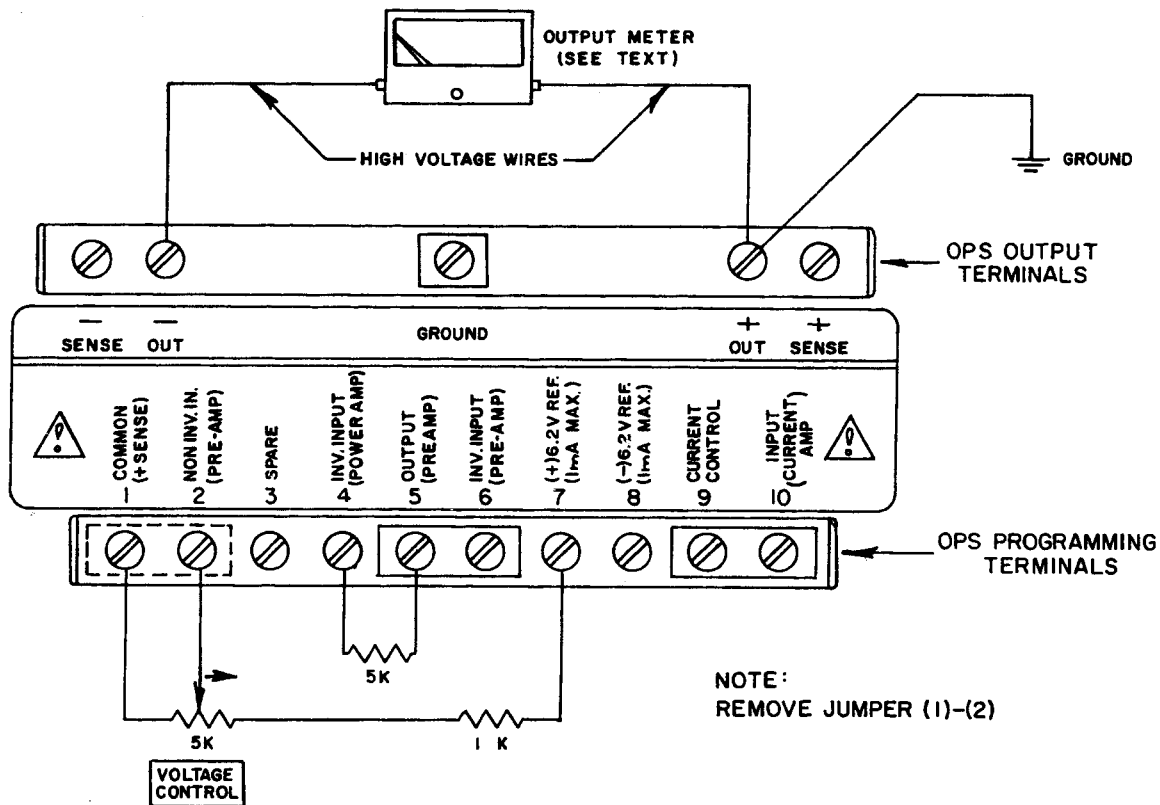

FIG. 2-4 TEST SET-UP FOR FUNCTIONAL CHECK OF THE OPS.
- 2-7 **A-C SAFETY GROUND.** THE DANGEROUS VOLTAGES PRESENT IN THIS EQUIPMENT MAKE IT IMPERATIVE THAT THE CASE IS KEPT AT GROUND POTENTIAL AT ALL TIMES. If the 3-wire line cord with 3-prong safety plug (supplied with this equipment) is used in combination with a properly grounded outlet, this is taken care of automatically. If an adapter for a nongrounded outlet is used, however, the case must be grounded separately. A separate "GROUND" terminal is provided for this purpose on the rear of the OPS. (See FIG. 2-4.)
#### 2-13 PROCEDURE, FUNCTIONAL CHECK (Refer to FIG. 2-4)
- 2) Remove jumpers (1)–(2) on the REAR PROGRAMMING TERMINALS and connect wires to terminals (1), (2), and (7). Connect two (2) wires to the REAR OUTPUT TERMINALS (– out) and (+ out). NOTE: THESE TWO WIRES MUST BE HIGH VOLTAGE WIRES WITH AN INSULATION RATING OF AT LEAST 2 k VOLTS.
- 4) Connect a 5 k ohm potentiometer in series with a 1.5 k ohm fixed resistor to the REAR PROGRAMMING TERMINALS (1), (2), (7) as shown in FIG. 2-4. Connect a fixed resistor (5 k ohm) between terminals (4) and (5). Connect a suitable voltmeter to the REAR OUTPUT TERMINALS as shown in FIG. 2-4. MAKE THE GROUND CONNECTIONS AS SHOWN IN FIG. 2-4.
- 5) Connect the OPS to a grounded a-c power outlet. Turn the connected VOLTAGE CONTROL potentiometer to the position of zero resistance between terminals (1) and (2) as shown in FIG. 2-4.